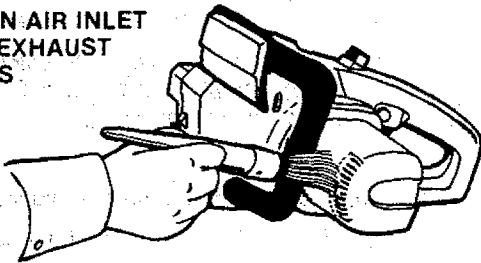

Figure 36
2. Use a small brush or the air discharge of a vacuum cleaner to clean debris and sawdust from the air inlet and exhaust slots on housing. Figure 36.